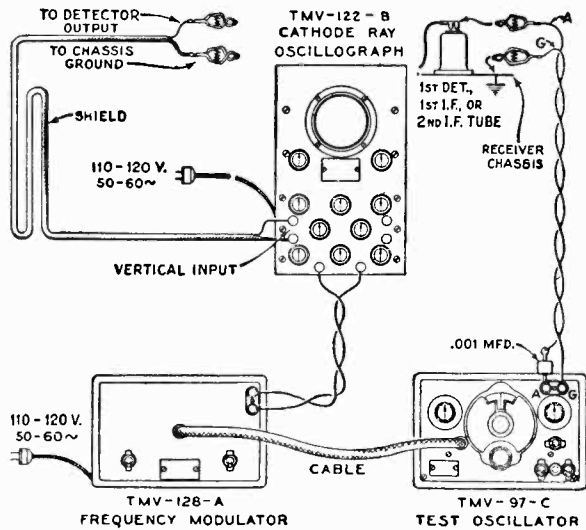

Figure 5—Alignment Apparatus Connections
The four trimmers of the two i-f transformers are located as shown by Figure 6. Each must be aligned to a basic frequency of 460 kc. The last transformer must be aligned firstly and the first transformer aligned secondly. For such a process, it is necessary to feed the output of the Full Range Oscillator to the stages in their order of alignment, adjusting the trimmers of each transformer and observing the effect at the second detector output on the Cathode-Ray Oscillograph. The proper point of connection of the Oscillograph is with its vertical "high" input terminal attached to the juncture of R-7 and R-8, as illustrated in Figure 6, and with the "0" or ground terminal to the chassis. The "Ext. Sync." terminals of the Oscillograph should be connected to the Frequency Modulator as shown by Figure 5. A .001 mfd. capacitor installed in series with the Oscillator "Ant." lead will prevent the voltages of the stage under alignment from becoming upset. The vertical "A" amplifier should be "On" for the ensuing adjustments and its gain control kept at maximum. For each adjustment, the Oscillator output must be regulated so that the image obtained on the Oscillograph screen will be of the minimum size convenient for accurate observation. Proceed further as follows:—
- (b) Attach the output of the test Oscillator between the control grid cap of the RCA-6K7 i-f tube and chassis ground as shown typically by Figure 5. Tune the Oscillator to 460 kc. and set its modulation switch to "On." Regulate its output until the signal produces a wave pattern on the Oscillograph screen, adjusting the Oscillograph controls to give a shape which is convenient for peak indications. Cause the image to stand still on the screen by manipulation of the frequency and synchronizing controls. Then carefully tune the two trimmers C-20 and C-21 of the second i-f transformer to produce maximum amplitude (vertical deflection) of the oscillographic image. Under this condition the transformer will be sharply resonated to 460 kc.
- (c) The Frequency Modulator should then be placed in operation and interconnected with the Full Range Oscillator by means of the special shielded patch cord. Figure 5 shows the proper arrangement. Set the Frequency Modulator sweep range switch to its "Lo" position and turn the Oscillator modulation switch to "Off." Change the timing control of the Oscillograph to "Ext." and place the range switch to its No. 2 position. Then carefully shift the tuning of the Oscillator so as to increase its frequency, until two distinct and similar waves appear on the Oscillograph screen and become exactly coincident at their highest points. This condition will be found to occur at an Oscillator setting of approximately 540 kc. The curves will be identical in shape but appearing in reversed positions. Adjust the frequency control of the Oscillograph in order to cause the waves to conform with the above requirement and to make them remain motionless on the screen. This will require a setting of approximately  $\frac{1}{2}$  clockwise rotation of the frequency control. The trimmers C-20 and C-21 should then be re-adjusted so that the two curves move together and become exactly coincident throughout their lengths, maintaining the maximum amplitude at which this condition can be brought about.